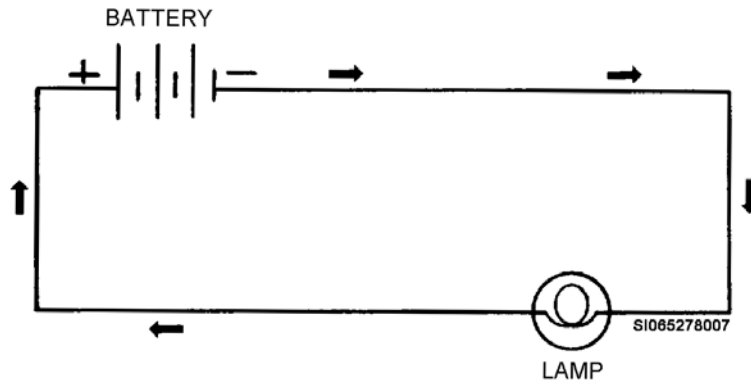

Figure 1-7. Electron flow in a DC circuit.
There are two common types of electric current: direct current (DC) and AC. DC represents electron flow along a conductor in one direction (fig. 1-7). The direction it flows is from negative to positive. DC circuits are covered more in depth in a later lesson.